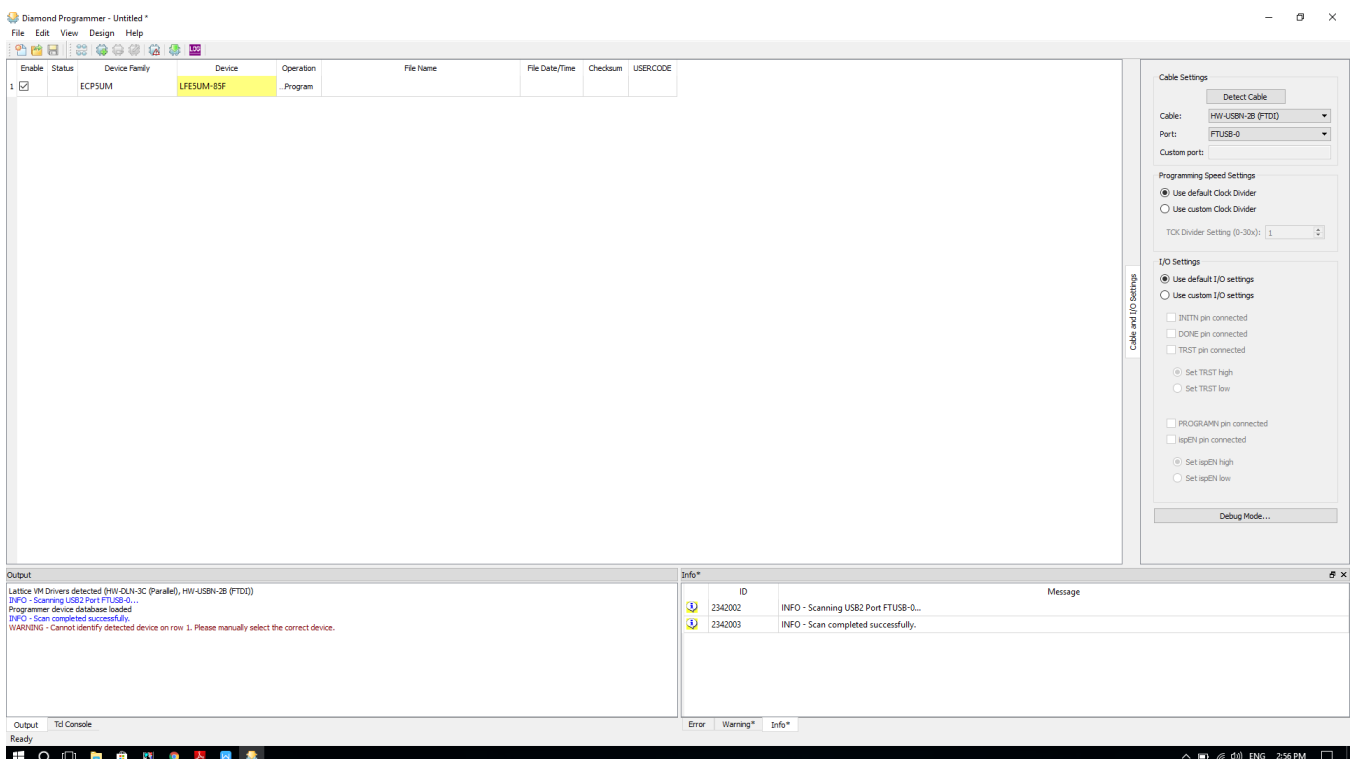

Figure 24. FPGA Device Scan
- The FPGA device (LFE5UM-85F) is detected in the programmer window, as shown in Figure 24.